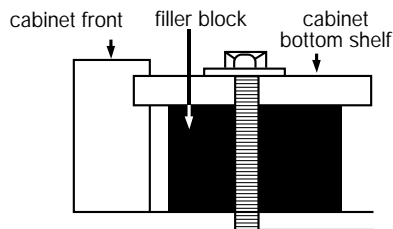

Figure 24
**NOTE:** If the bottom of the upper cabinet is recessed 3/4" or more, you will need 2"x2" filler blocks (not included) to provide additional support for the bolts. See Figure 24.